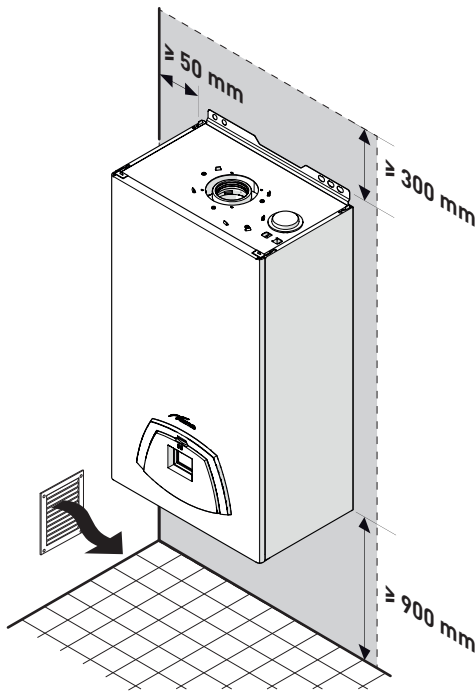

Fig. 21
- Remember to consider the space needed in order to access the safety/adjustment devices and to carry out maintenance interventions (see Fig. 21).